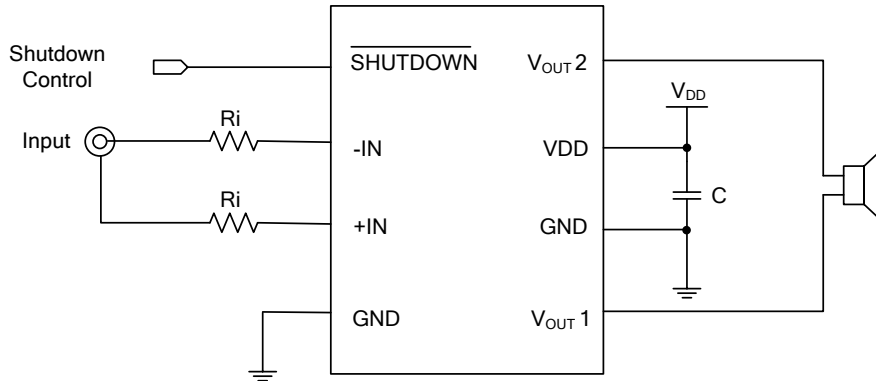

Fig. 2 Typical Audio Amplifier Application Circuit
The M4670's gain is set by the external resistors Ri, shown in Fig. 2, the gain of the equation by (2) is given. When the gain of 2V/V (6dB), the THD+N performance of the best.